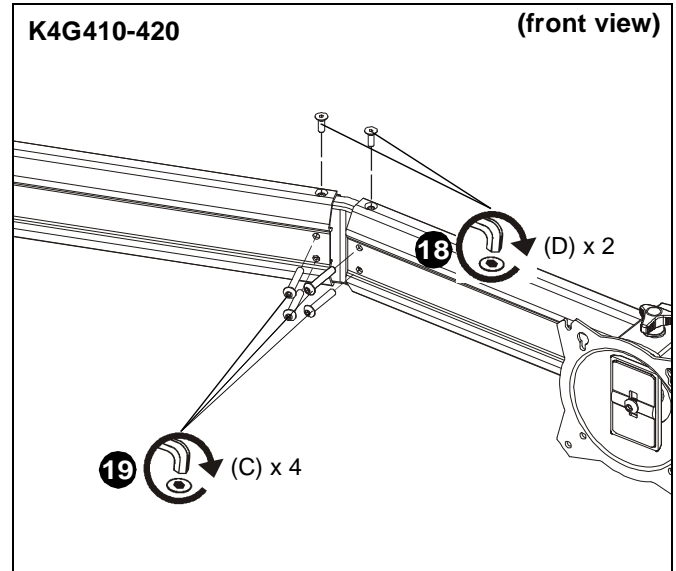
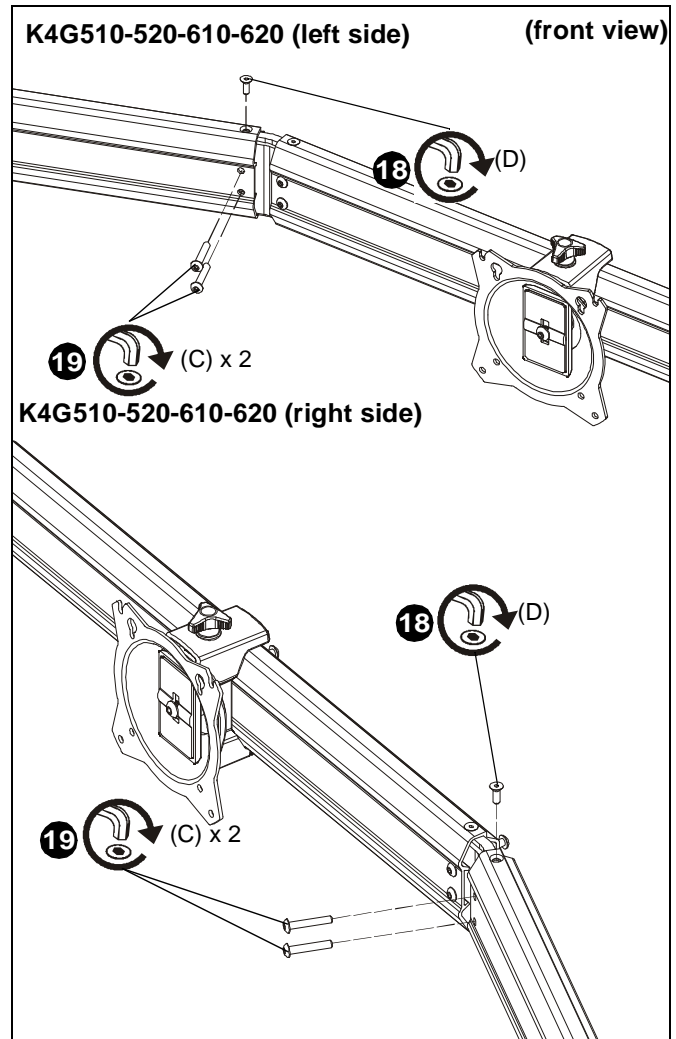

Figure 8
Figure 9
18. Use two #8-32 x 1/2" flat head cap screws (D) to secure each array arm to connector plates. (See Figure 8) and (See Figure 9)
19. Use four #10-24 x 1 1/8" button head cap screws (C) to secure array arms (AA and BB) to connector plates and brackets. (See Figure 8) and (See Figure 9)
20. Use four #10-32 x 1" button head cap screws (B) to secure two handles (EE) to array arms (AA and BB) or K4G6X center plate (DD). (See Figure 9)